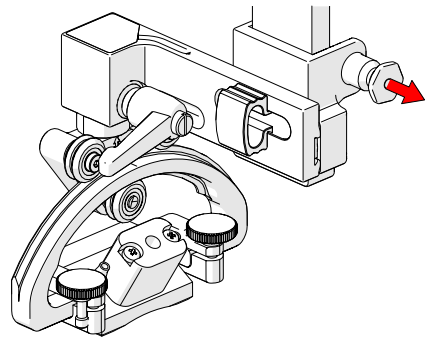

Fig. 214 - Pull latch pin
2. Pull the latch pin to allow movement of the probe holder (Fig. 214).